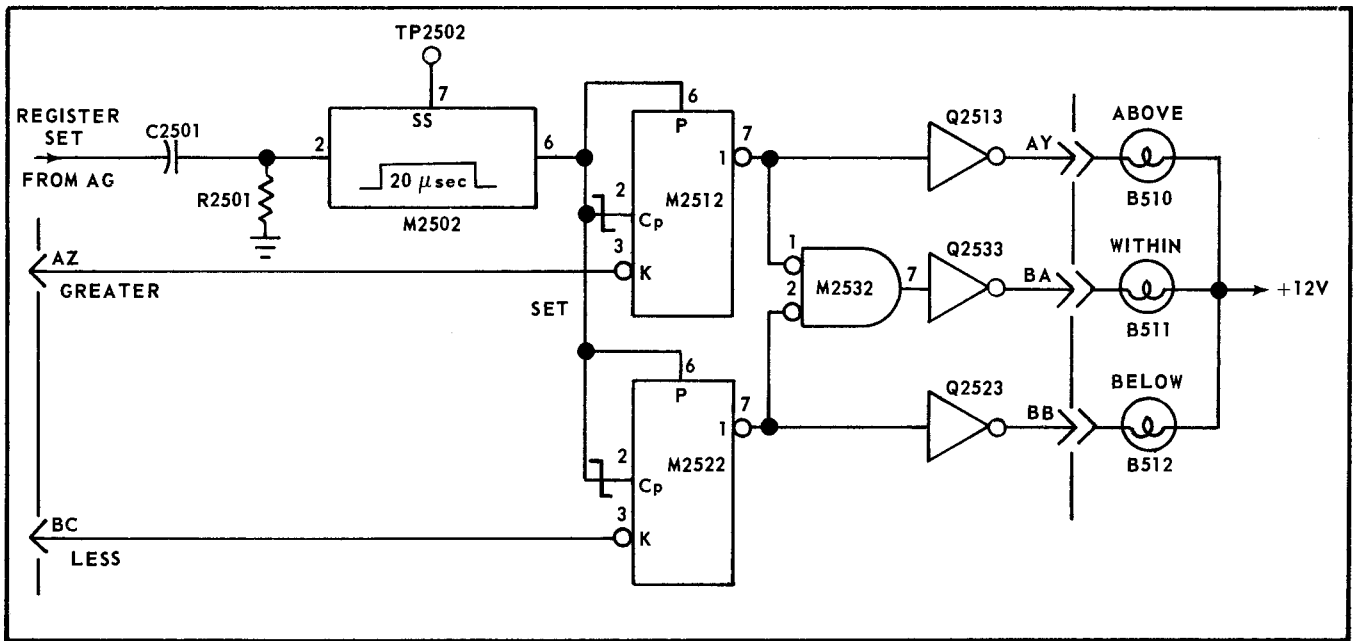

Fig. 4-41. Limit storage logic.
**Limit Lamp Storage.** The limit storage circuit (see Fig. 4-41) has the function of delaying and transferring the upper and lower limit comparator output information to the read-out lamps located on the front panel. It is composed of a single-shot multivibrator, storage flipflops for both the upper and lower limit information, a NAND gate, and three limit lamp drivers.